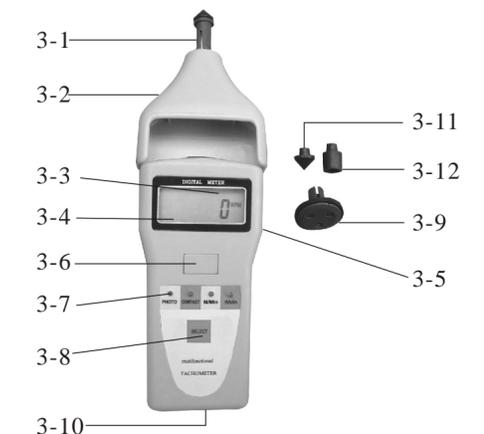

Fig. 1
- (1) When it is necessary to replace the battery, i.e. battery voltage less than approx. 5v, symbol “” will appear on the Display.
- (2) Slide the battery cover (Fig.1,3-10) away from the instrument and remove the batteries.
- (3) Install the batteries (4x1.5VAA / UM-3) correctly into the case.
- (4) If the instrument is not to be used for any extended period, remove batteries.